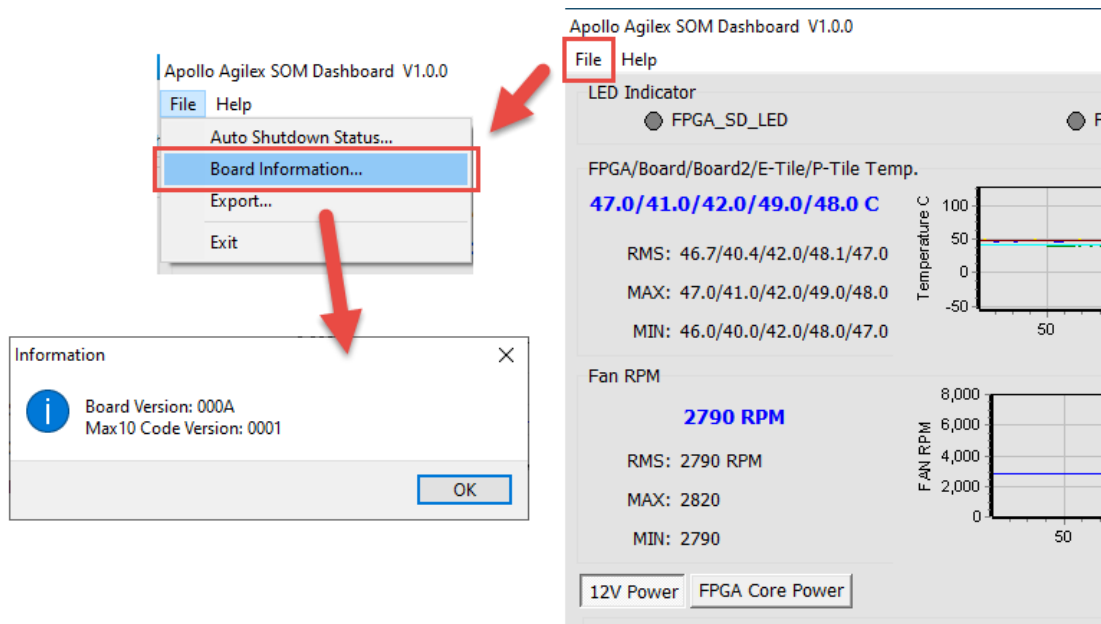

Figure 3-11 Board Information
- **Board Information:** There is a **File** page on the upper left of the Dashboard GUI program window, click the **Board Information** to get the current software version and the Apollo Agilex board version, as shown in **Figure 3-11**. **Note**, user needs to stop the system monitor (press the “**Stop**” button on the Dashboard GUI), then you can run the Board Information.